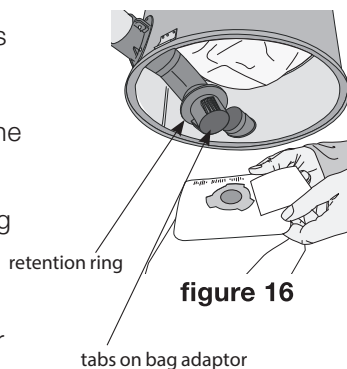

figure 16
3. Install the new bag, ensuring the tabs on the bag adaptor are aligned with the slots in the bag collar (**figure 16**).